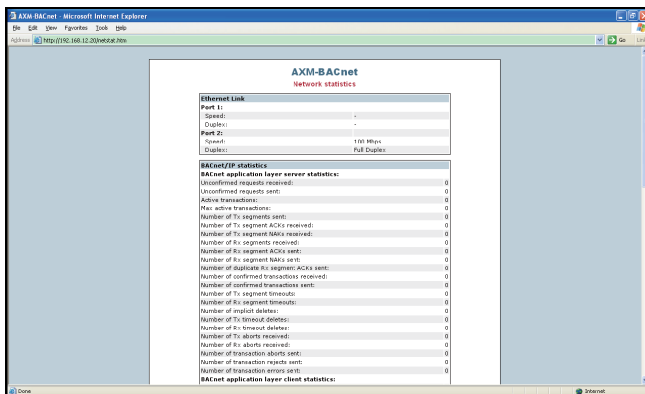

Fig 5-89
c). Set module address in the first setting page. Press the "V/A" key to go to the setting page. Users may set the parameters pointed out in Fig 5-89. The cursor starts at the first digit. The BACnet MS/TP Address's default value is 0, and the user defined range of address is 0~127. After setting the BACnet MS/TP Address, press the "V/A" key to accept. Press the "P" key to go to the second setting page for the baud rate.